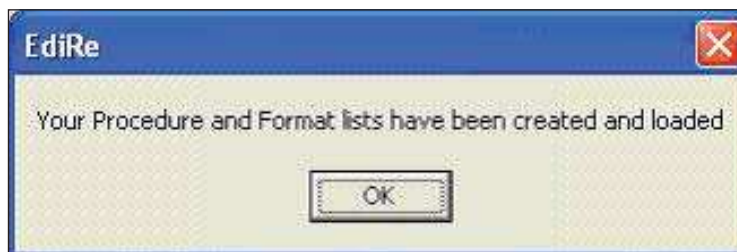

Figure 5: This message is displayed when your processing and format list have been successfully created.
- Click OK, and you will see the message shown in Figure 5.